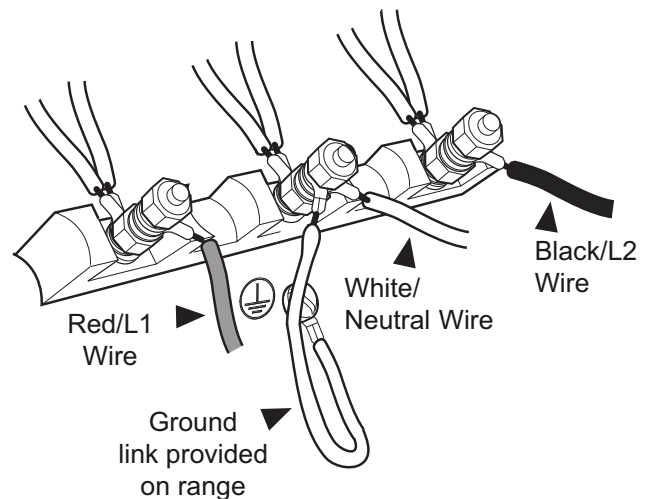

Figure 19: 3-Wire Connection
4. Secure the neutral, grounded wire of the supply circuit, to the center stud (silver colored) of the terminal block (see *Figure 19*).